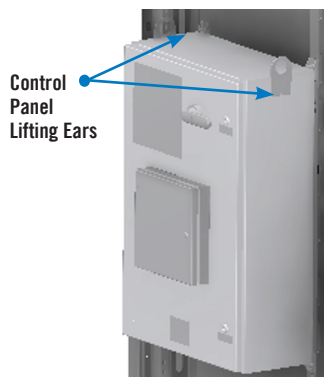

Figure 8. iPilot™ Control System Panel
1. After the module is fully assembled, attach the bracket and mounting channel for the control panel. Measure the control panel width before installing the mount channel to match the mounting location. Also check the control panel location on Face A or B. Refer to your submittal drawing (see Figures 8, 9a, and 9b).